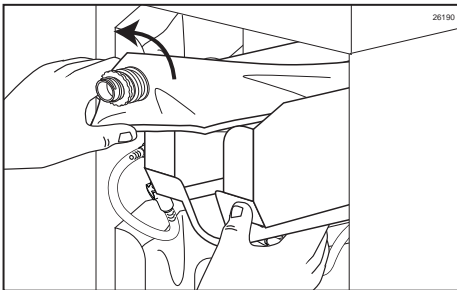

Figure 106
2. Remove each syrup bag from its tray and store as directed on the label. (See Figure 106.)